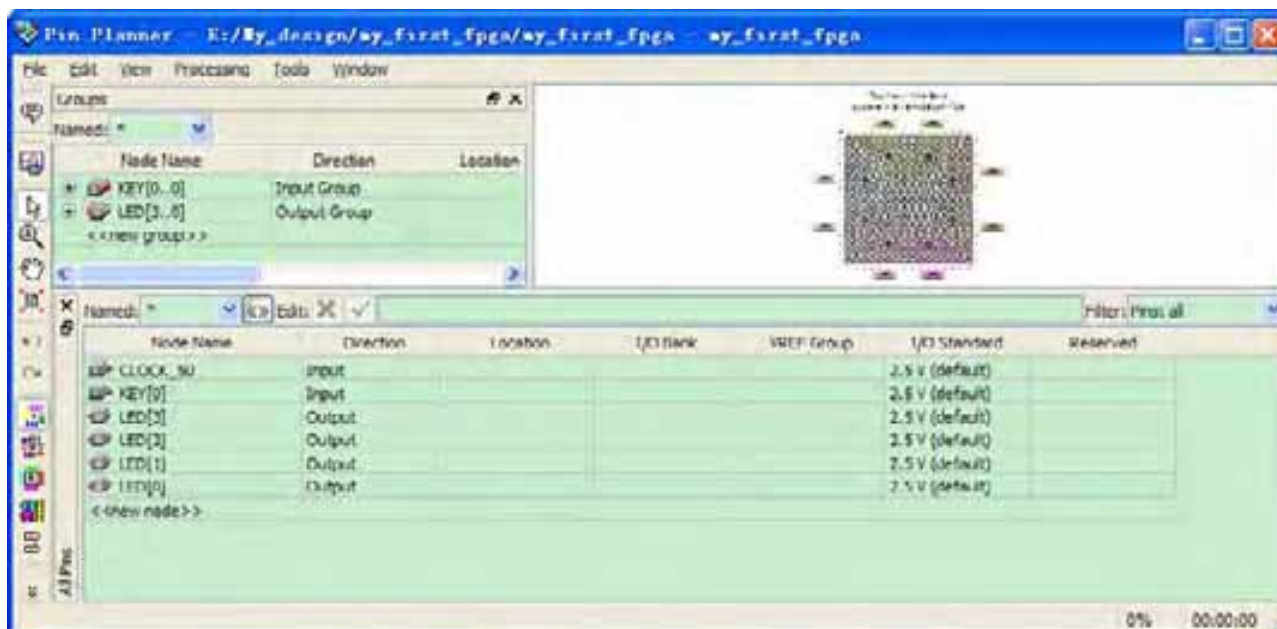

Figure 6-41 Pin Planner Example
1. Select **Assignments > Pin Planner**, which opens the Pin Planner, a spreadsheet-like table of specific pin assignments. The Pin Planner shows the design’s six pins. See Figure 6-41